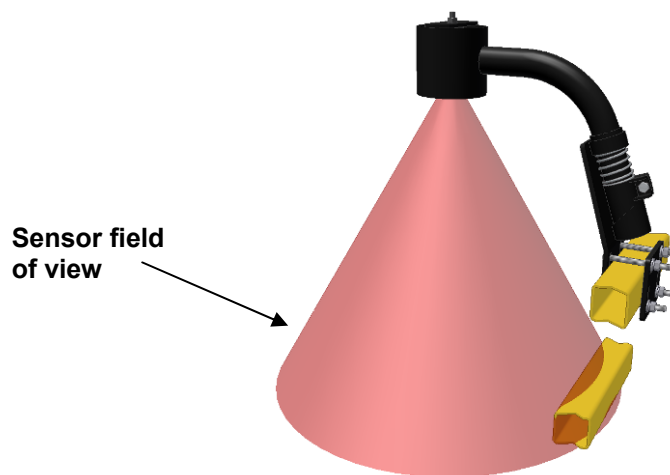

Figure 16: Sensor Reading of the Boom
- When mounting to the top part of the boom (**Figure 16**), check that the sensor can not read off the bottom part of the boom. This is most common in Crop Mode.